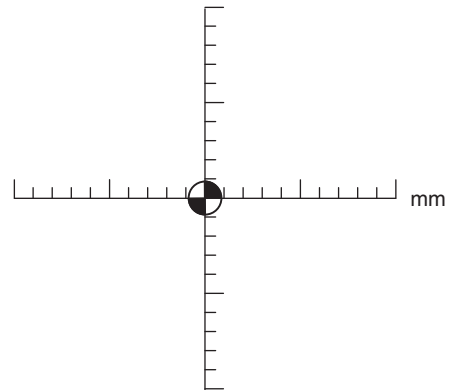

Figure 17-38 Your plot grid needn't be any particular scale or actual size. Choose a scale that fills the page with the part dimensions.
- Plot the following incremental coordinates with a pencil, in sequence. Choose a scale on graph similar to that shown in Fig. 17-38. The program begins with the tool (pencil in this case) 5 mm above the paper at the PRZ. It touches to make a line when it's at Z25.0 mm. Nulls have been removed.